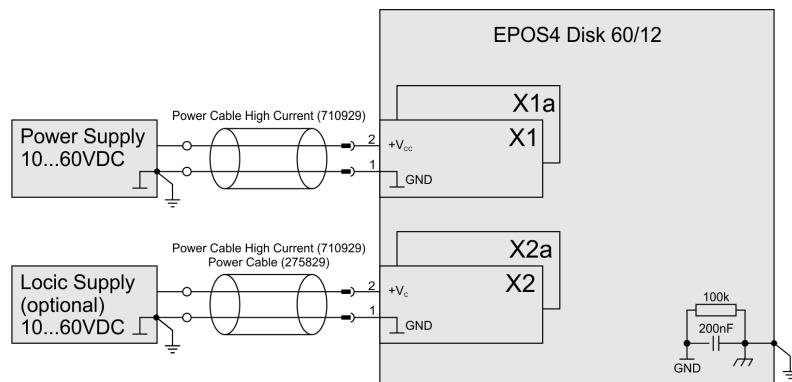

Figure 4-45 Power & logic supply
**Power supply & optional logic supply . . . . .** Figure 4-45
Power supply & optional logic supply ..... Figure 4-45